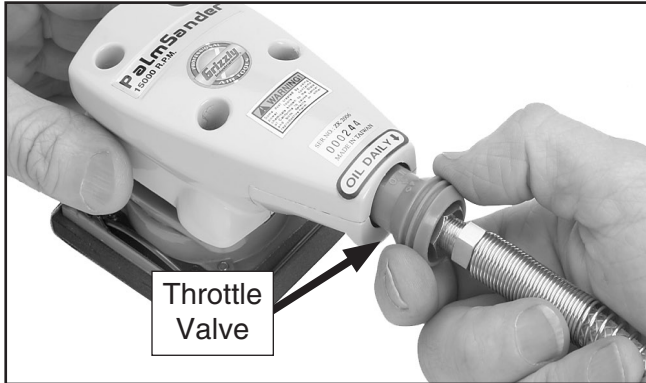

Figure 5. Sander controls.
- Hold the sander and push the throttle valve (**Figure 5**) inwards to turn the sander on.
- Push or pull the throttle valve (**Figure 5**) between ON and OFF to control the speed of the sander.